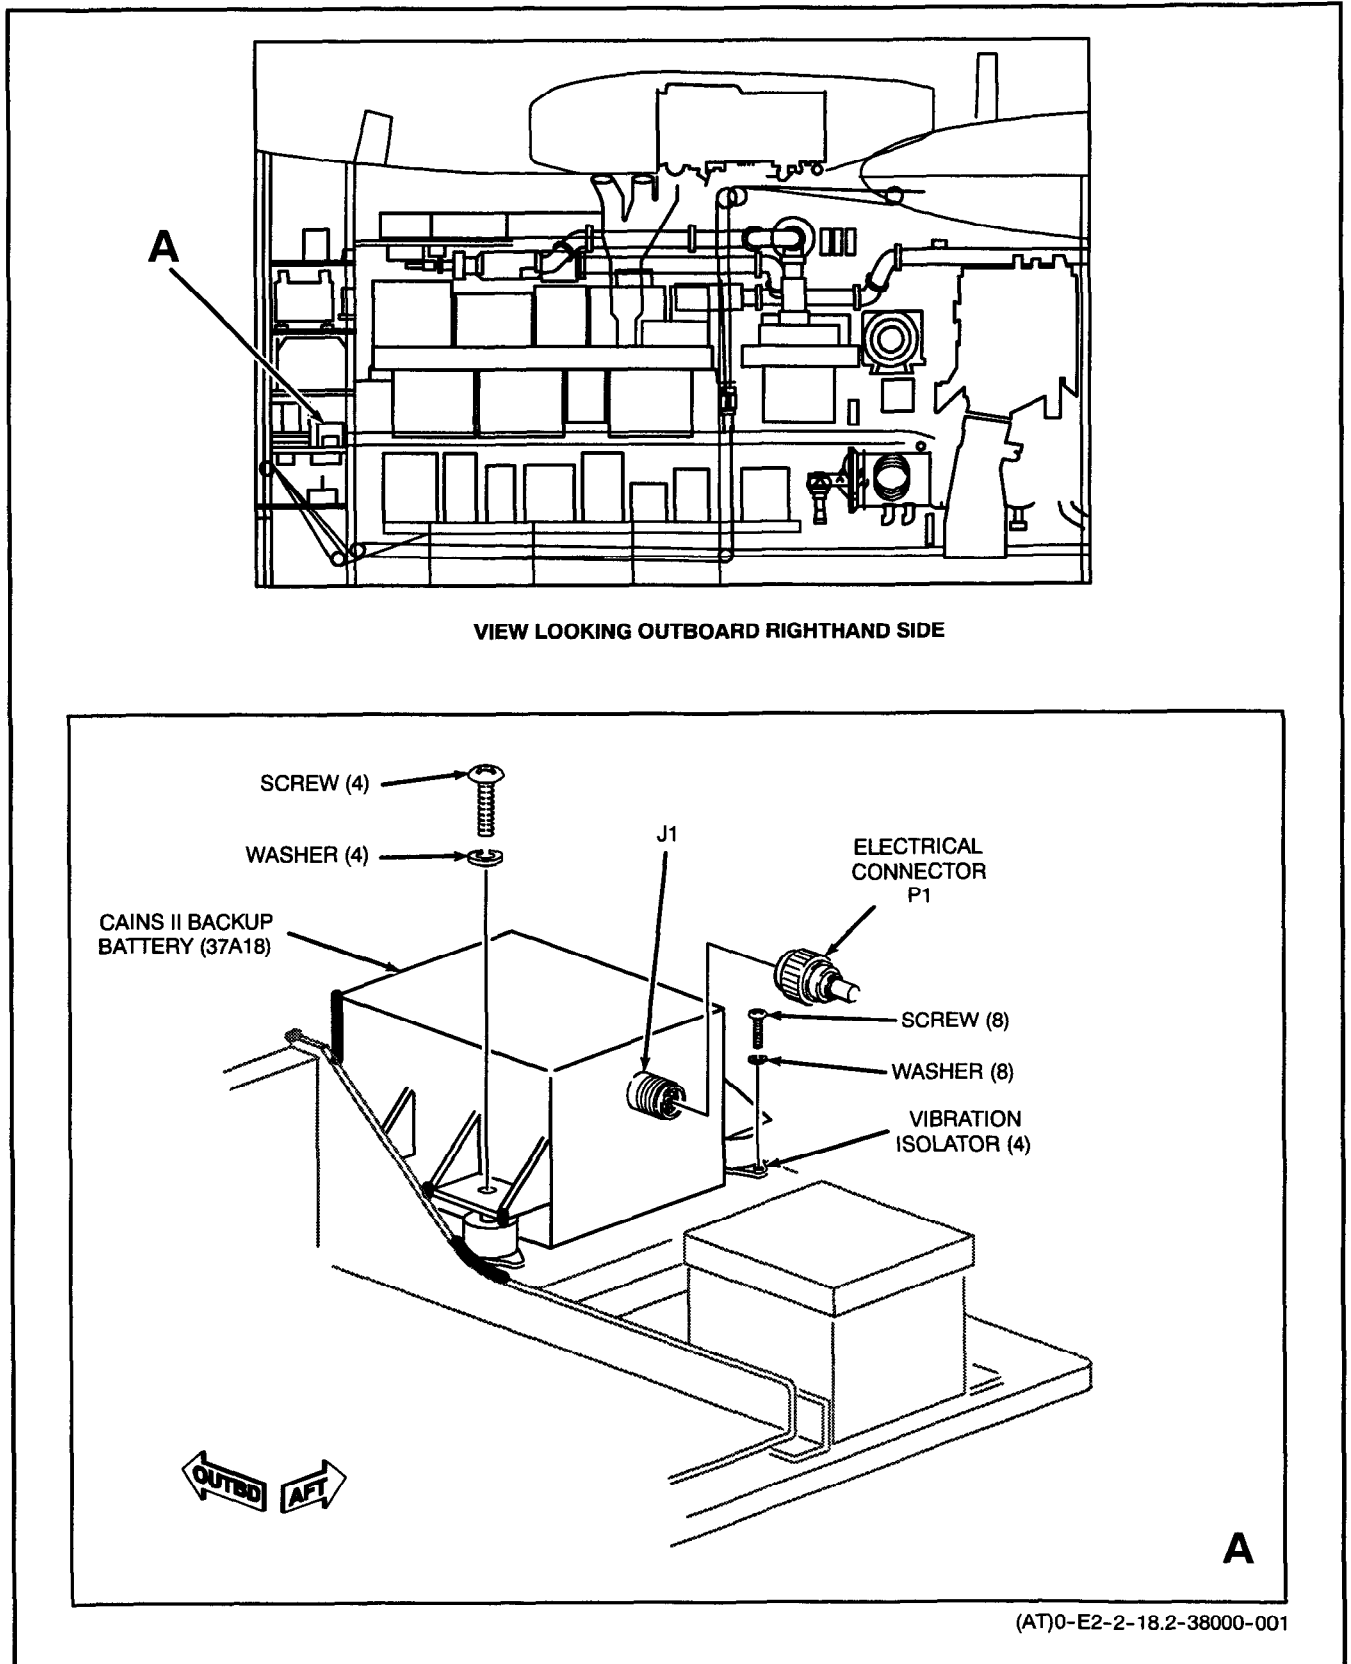

Figure 1. CAINS II Backup Battery Removal and Installation
**4. INSTALLATION.** (Figure 1.)